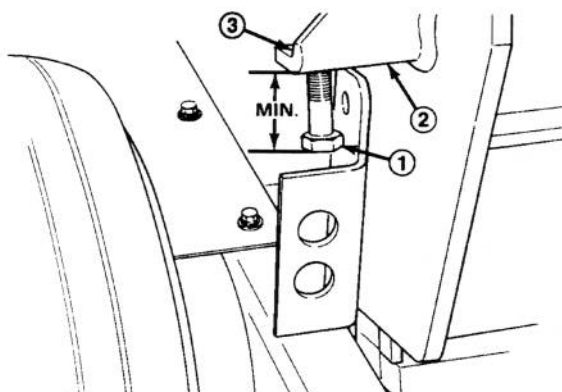

Figure 8
2. Loosen the jam nut on top of the adjusting bracket (Fig. 8).
3. Thread the adjusting screw into the bracket to increase coring depth. Thread it out to decrease depth (Fig. 8).
the bracket is $\frac{11}{16}$ " (Fig. 8).